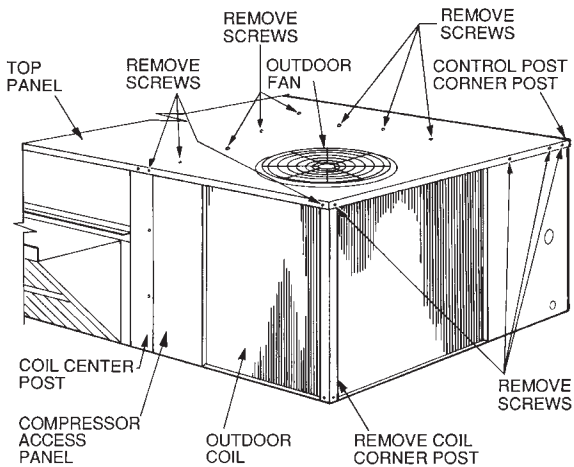
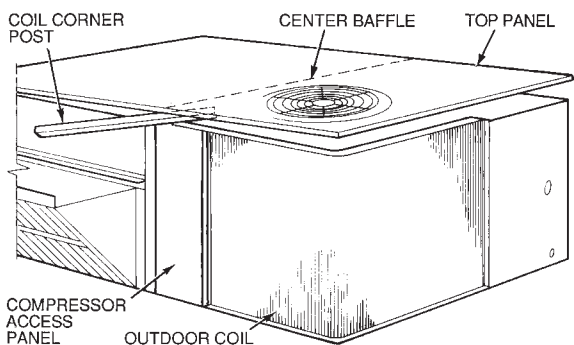

Fig. 45 – Cleaning Condenser Coil
Fig. 46 – Propping Up Top Panel
3. Remove condenser coil corner post. (See Fig. 45.) To hold top panel open, place coil corner post between top panel and center post. (See Fig. 46.)